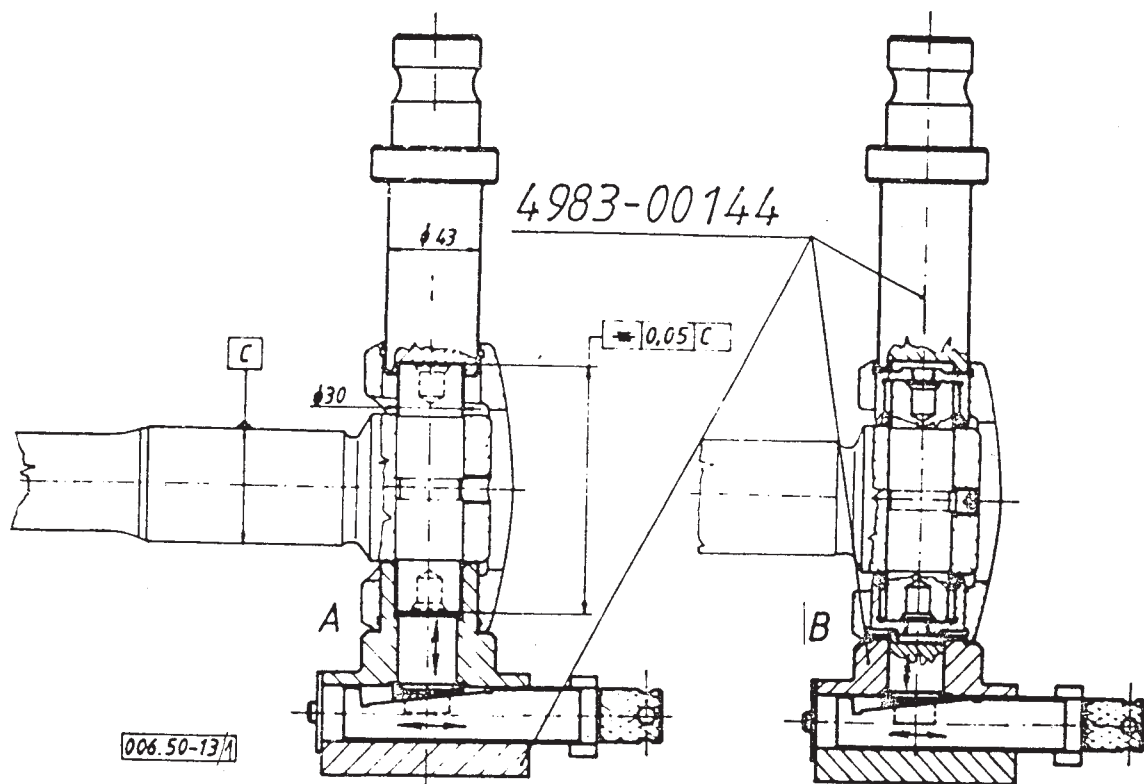

Fig. 3.
Properly backing up the axle-shaft, start the knuckle pin out of the axle-shaft by means of the thrust pin of the tool shown in Fig. 3., then drive out by a mandrel of diameter less than 30 mm (Fig. 2.).
Install the proper axle-shaft into the spider and press in the knuckle pin to center position as shown by "A" in Fig. 3.
Adjustment of the mean position can be performed by rotating the adjusting spindle of the device and by adjusting the movable wedge or its support pin (**Fig. 3.**)
According to detail "A" of **Fig. 3.** use proper backing and press the bearing cap assembly to one side, then install a "standard" **2.075 mm** thickness blue colored snap ring into the groove. By backing up as shown in detail "B" of **Fig. 3.**, press the bearing cap assembly to the other side and install here also the "standard" **2.075 mm** thickness blue colored snap ring into the groove.
Place the spacer sleeve (6) in the spindle (35). By means of the tools shown drive in the cylindric roller bearing (Fig. 3.).